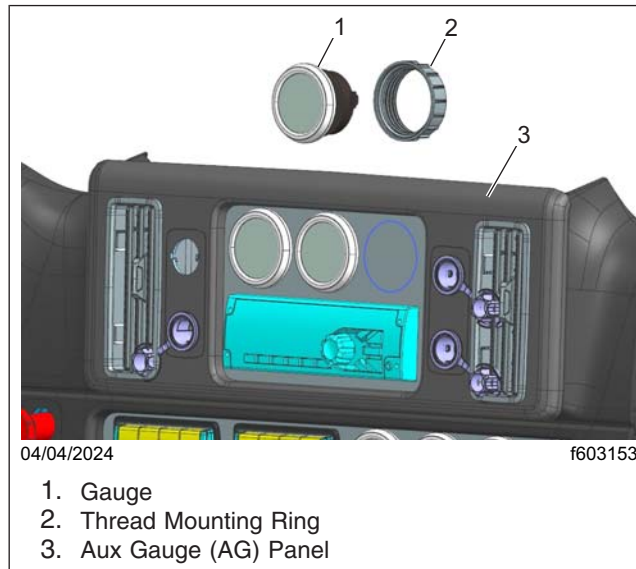

Fig. 6, Aux Gauge (AG) Panel
- 10.3 Insert the gauge from the front of the panel into the hole. Thread the mounting ring on the rear side of the gauge to secure it tightly to the panel. See Fig. 6.